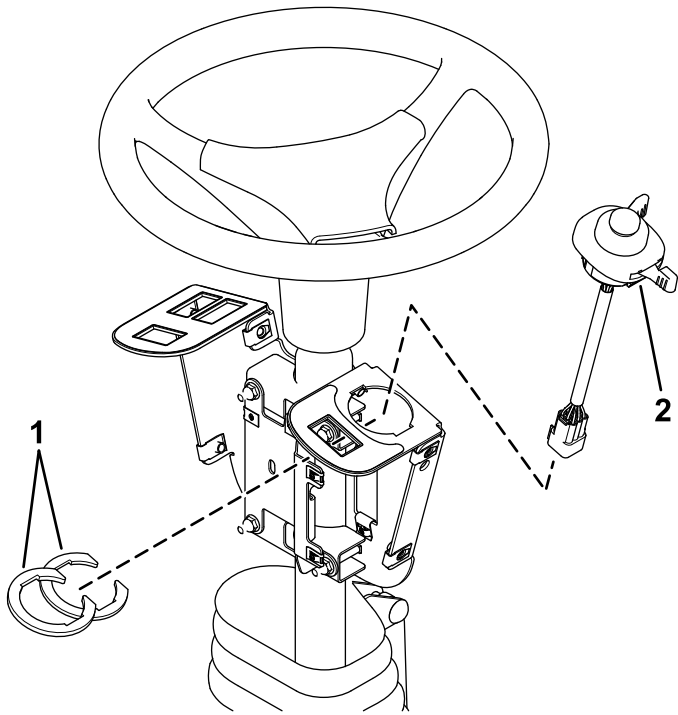

Figure 4
2. Install the multi-function switch to the switch mount and secure it using the switch clips under the hole for the switch (Figure 4).